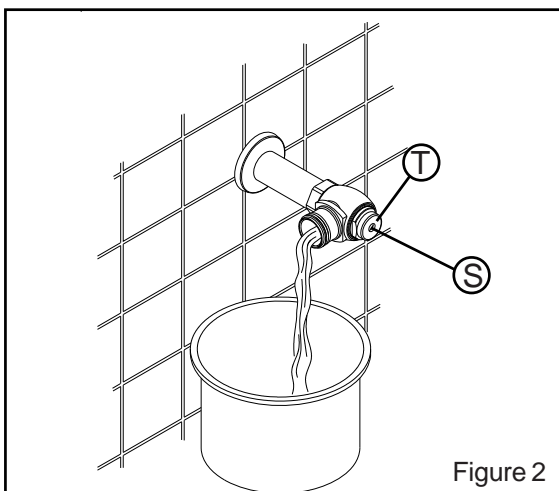

Figure 2
Before the supply water is turned on, be sure all stop valves are closed off tight. The stop valves can be opened and closed by using the adjusting screw (S) located at the center of the stop valve cap (T). Stop valve adjustments can only be made by using the adjusting screw (S). **It is not necessary to remove the stop valve cap (T) when making adjustments. If for any reason it becomes necessary to remove the stop valve cap (T), be certain the water is shut off at the main supply valve. See Figure 2**